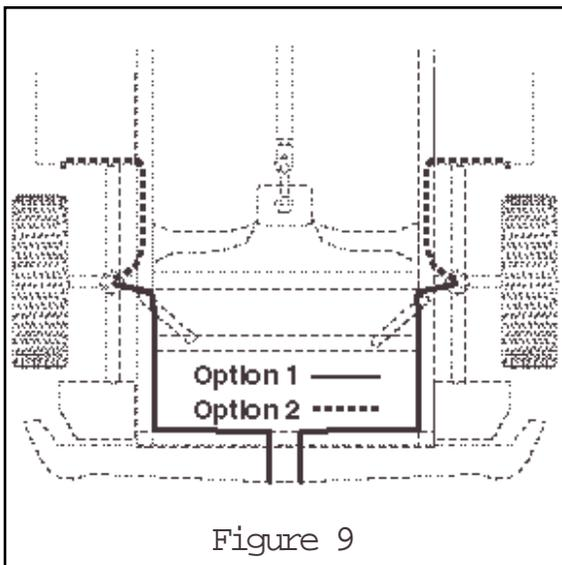

Figure 9
A. Select a location for the inflation valves on the bumper, under the hood near the latch, or behind the license plate, assuring that each valve will be protected and accessible with an air hose (Figure 9).